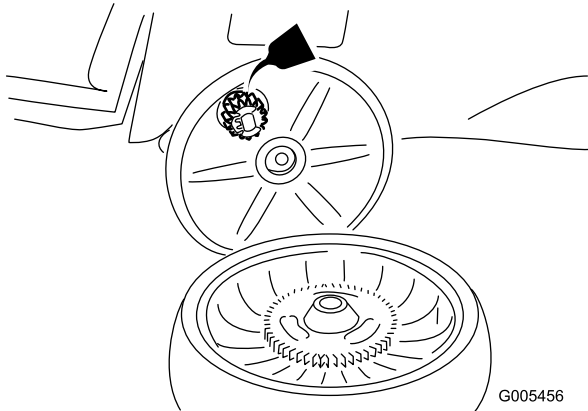

Figure 21
2. Apply a lubricating oil to the gear as shown in Figure 21.